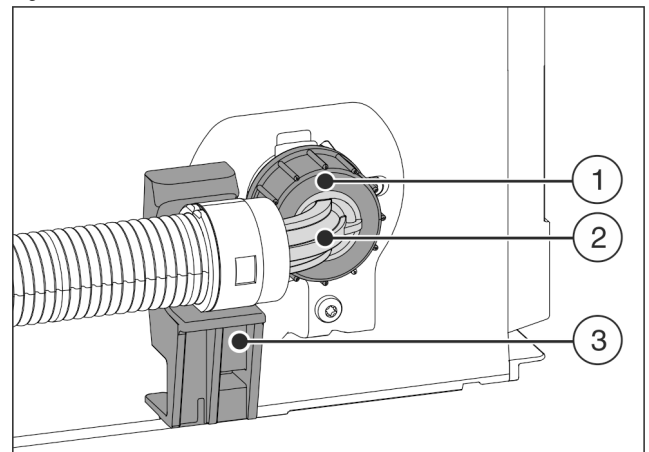

Fig. 23
- ▶ Position and hold the angled hose end Fig. 23 (2) horizontally at the holder Fig. 23 (3).
- ▶ Screw the nut Fig. 23 (1) onto the thread by hand until securely in place.